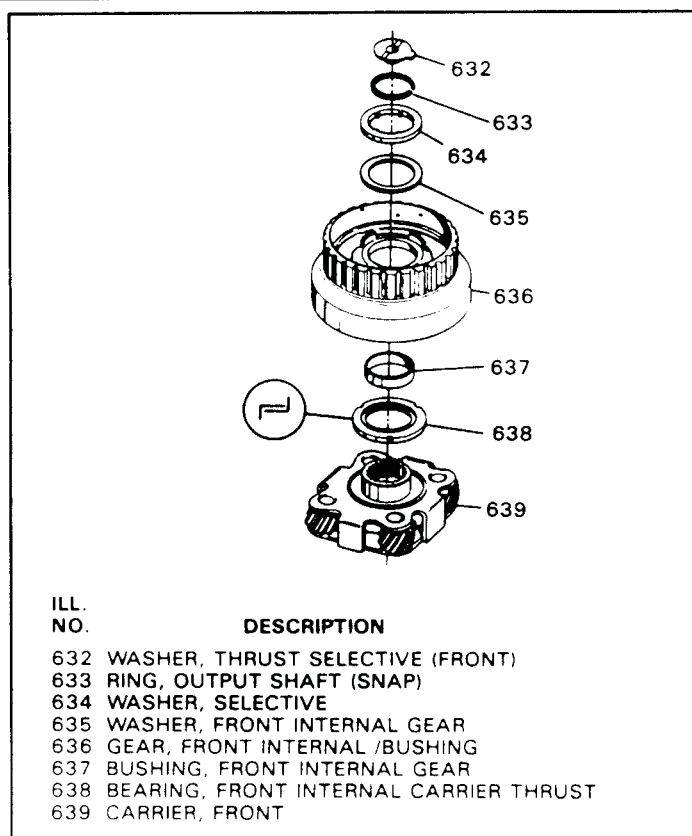

Figure 80
58. Install the front carrier onto the front sun gear, as shown in Figure 80.
59. Install thrust bearing (638) onto front carrier, in the direction shown in Figure 80.
60. Install the front ring gear onto the front carrier as shown in Figure 80.
61. Install thrust washer (635) on front ring gear, as shown in Figure 80.
62. Install selective thrust washer (634) as shown in Figure 80.
63. Install snap ring over output shaft and on top of selective thrust washer (See Figure 80).